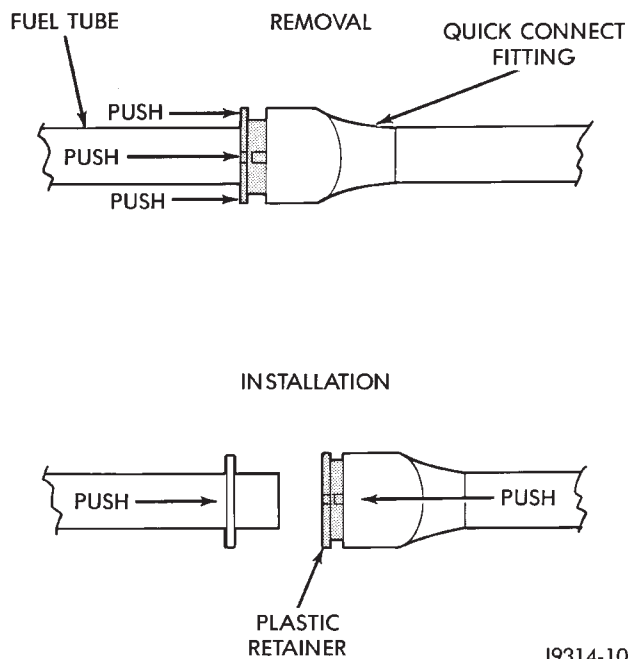

Fig. 12 Plastic Retainer Ring Type Fitting
This type of fitting can be identified by the use of a full-round plastic retainer ring (Fig. 12) usually black in color.
- (1) Disconnect negative battery cable from the battery.
- (2) Perform the fuel pressure release procedure. Refer to the Fuel Pressure Release Procedure in this section.
- (3) Clean the fitting of any foreign material before disassembly.
- (4) To release the fuel system component from the quick-connect fitting, firmly push the fitting towards the component being serviced while firmly pushing the plastic retainer ring into the fitting (Fig. 12). With the plastic ring depressed, pull the fitting from the component. **The plastic retainer ring must be pressed squarely into the fitting body. If this retainer is cocked during removal, it may be difficult to disconnect fitting. Use an open-end wrench on the shoulder of the plastic retainer ring to aid in disconnection.**
- (5) After disconnection, the plastic retainer ring will remain with the quick-connect fitting connector body.
- (6) Inspect fitting connector body, plastic retainer ring and fuel system component for damage. Replace as necessary.
- (7) Prior to connecting the quick-connect fitting to component being serviced, check condition of fitting and component. Clean the parts with a lint-free cloth. Lubricate them with clean engine oil.
- (8) Insert the quick-connect fitting into the component being serviced until a click is felt.
- (9) Verify a locked condition by firmly pulling on fuel tube and fitting (15-30 lbs.).
- (10) Connect negative battery cable to battery.
- (11) Start engine and check for leaks.